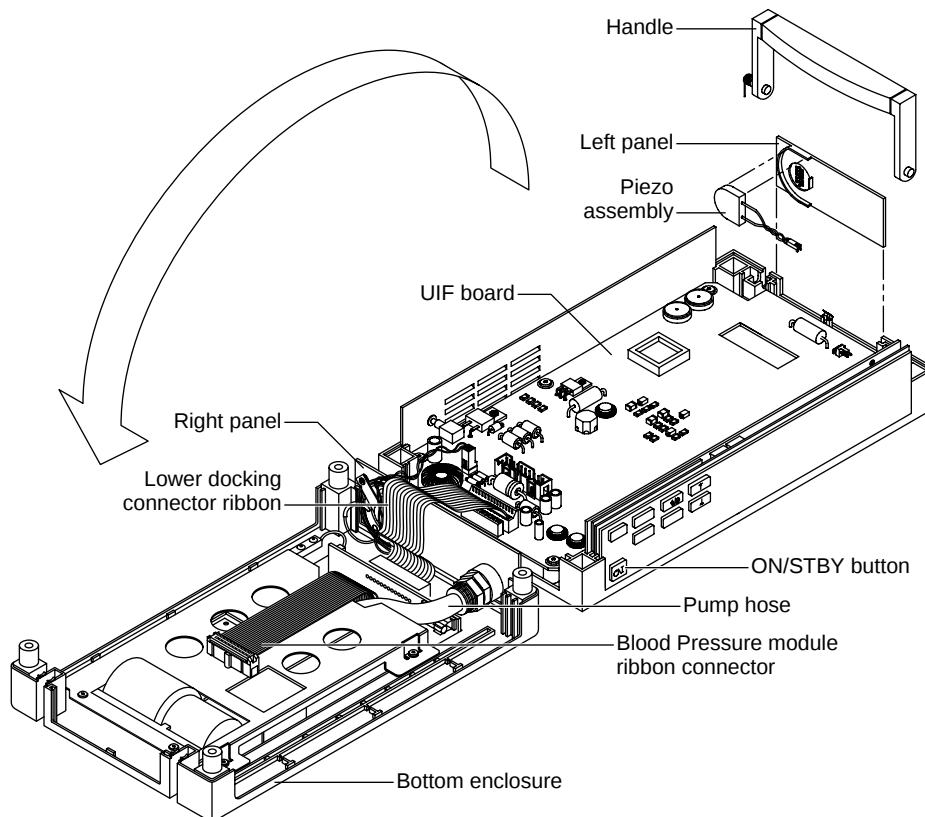

Figure 6-3: Separating the Monitor and Disconnecting the Cables
6. Disconnect the blood pressure module ribbon connector from the UIF board as illustrated in Figure 6-3.